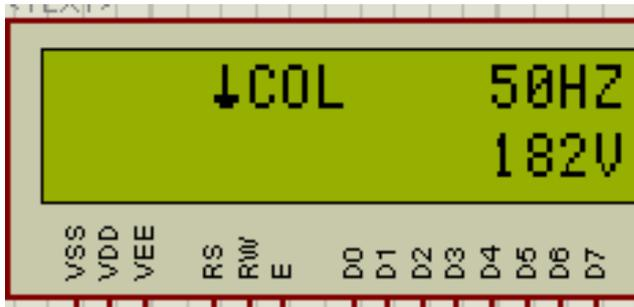

Figure 7 The error message of the cooling system
The thermostat sensor is generally used in internal combustion engines, so it can be used to send the signal to the system when there is an over-temperature situation [1], when the system receives a signal from the thermostat, first of all, it will turn on a coolant pump, afterward, the response depends on settings put in the device and give the operator option to shut down immediately or wait (30/60/120) Seconds before shut down and during this period check the thermostat and other sensors. The flowchart in Figure 5 shows the overall workflow for such a case. Error messages will be displayed on LCD for temperature and coolant, as shown in Figure 6 and Figure 7.
- Display the error on the LCD as shown in Figure 7